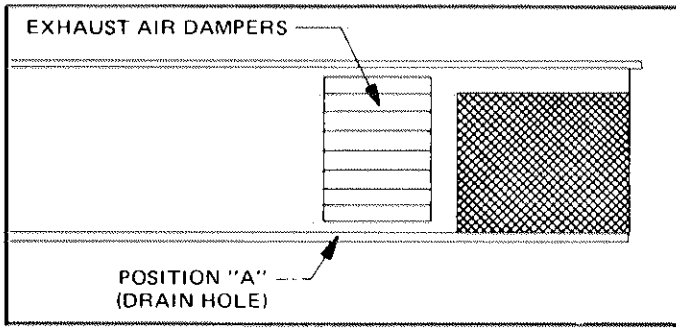

FIGURE 89
- 2 - Adjust fresh air/return air dampers to the 100% return air position and measure static pressure at position "A" on unit. See Figure 89. This static pressure must be 0" w.c. to + 0.10" w.c. (0 mm w.c. to 2.54 mm w.c.).